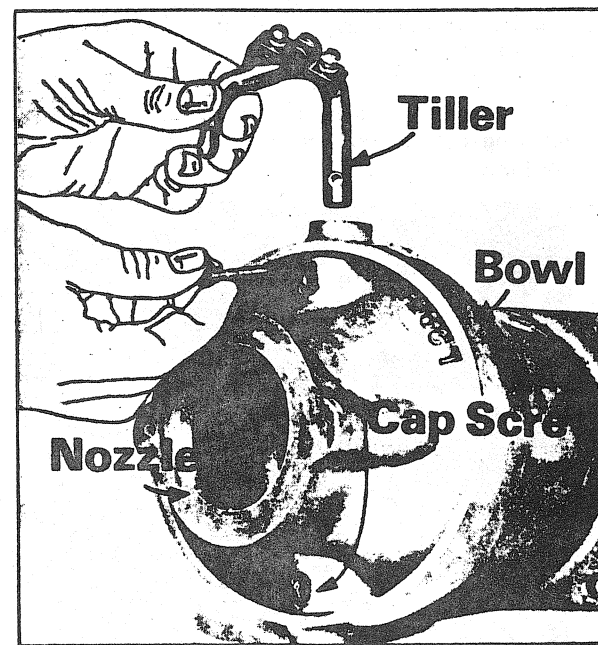

FIGURE 8
- With a 7/16" socket wrench, remove the two (2) capscrews on the nozzle then pull the tiller from the nozzle and bowl (fig. 8).